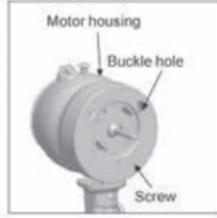
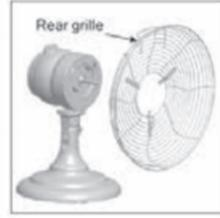

Figure 1
Figure 2
1. Loosen the rear grille securing screw and nut from the motor housing. (Figure 1)
2. Place the rear grille against the motor housing by inserting the buckle to the buckle hole from big hole and slide down to the small hole (Figure 1 and Figure 2). Make sure the handle on the back of rear grille is facing up. Tighten the screw to fix the rear grille to the motor housing (Figure 2).